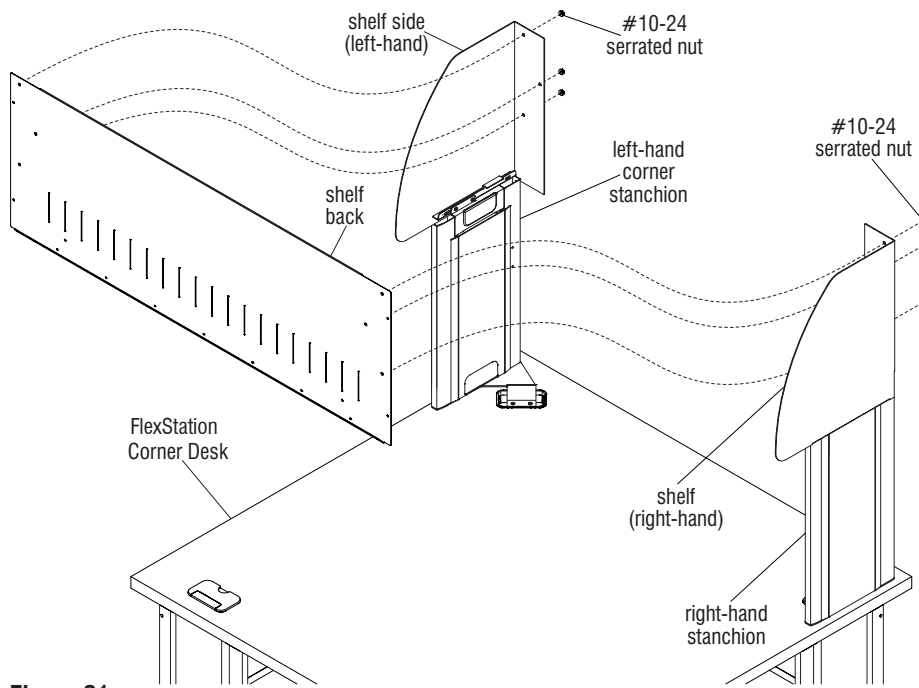

Figure 21
7. Position cabinet back as illustrated, with studs facing the rear. Orient the cabinet back into position, inserting the studs on the cabinet back through the mounting holes in rear flanges of both installed cabinet sides. Use six #10-24 serrated nuts to secure back to sides (Figure 21).